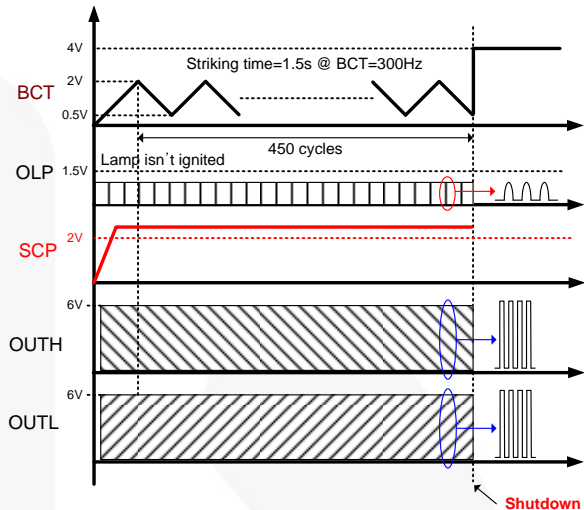

Figure 43. Short-Circuit Protection in Striking Mode
**Short-Circuit Protection:** If SCP is higher than 2V, the counter based on BCT time starts counting 450 cycles and 32 cycles at striking mode and normal mode, respectively, then the IC enters shutdown, as shown in Figure 43 and Figure 44.